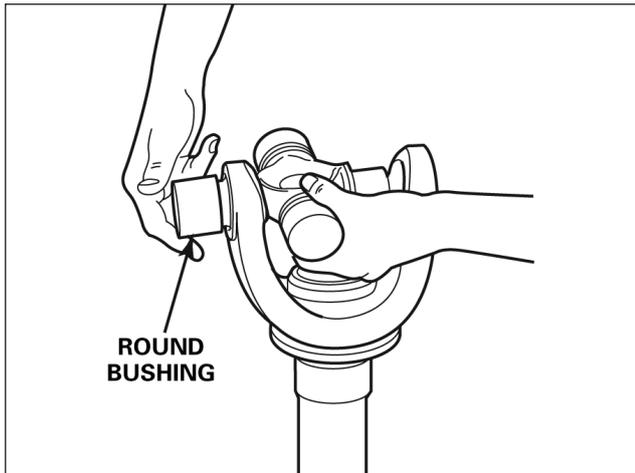

Fig. 4.15
1. Slide the first bushing onto the trunnion. Fig. 4.15